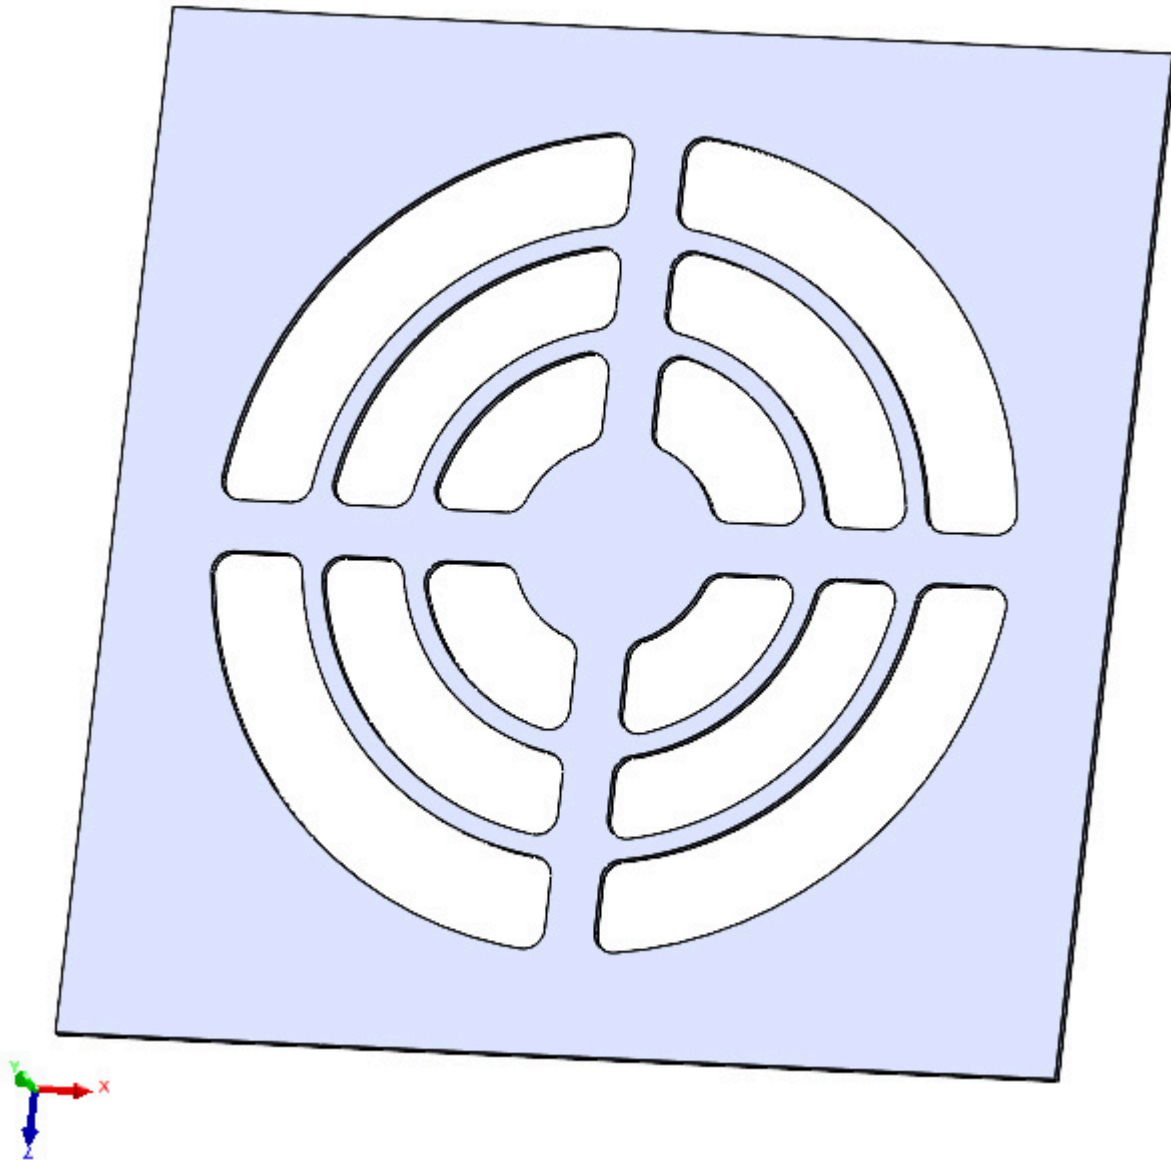

Figure 6.15: The completed Vent feature
15. Press **OK** to create the feature (*Figure 6.15*). Note that it now appears in the FeatureManager Design Tree: